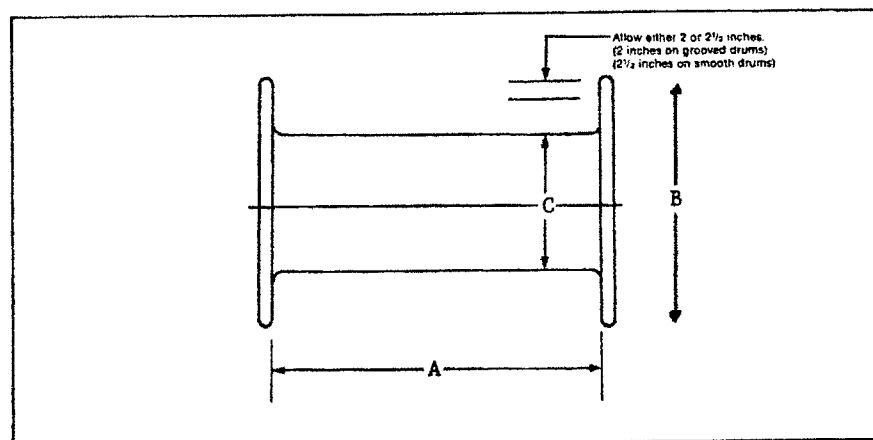

Fig. 2-12 Computing length of wire rope on reel
Measure the depth of material (h) wound on the reel. Add this figure to the diameter (s) of the drum (hub). Multiply this sum by the depth (h), then multiply the product by the inside length (L) of the drum. Then multiply by a constant (K) for the respective size of rope. The result (X) will be the length of rope on the reel. All of the measurements are in inches and the length of the rope will be in feet. (See **Figure 2-12.**)
- (1) Determine if the rope will be overwound or underwound. Will it come off the top or bottom of the drum?
- (2) Imagine being behind the drum.
- (3) For right lay rope, make a fist with your right hand to simulate the drum, and extend your forefinger to simulate the rope. If the rope is overwound the back of the hand must be up so the forefinger "comes off the top of the drum" just like the rope. If the rope is underwound the palm would be up so the forefinger "comes off the bottom of the drum" like the rope.
- (4) With your hand in the correct position extend your thumb. The thumb points to the side where the anchoring must be done.